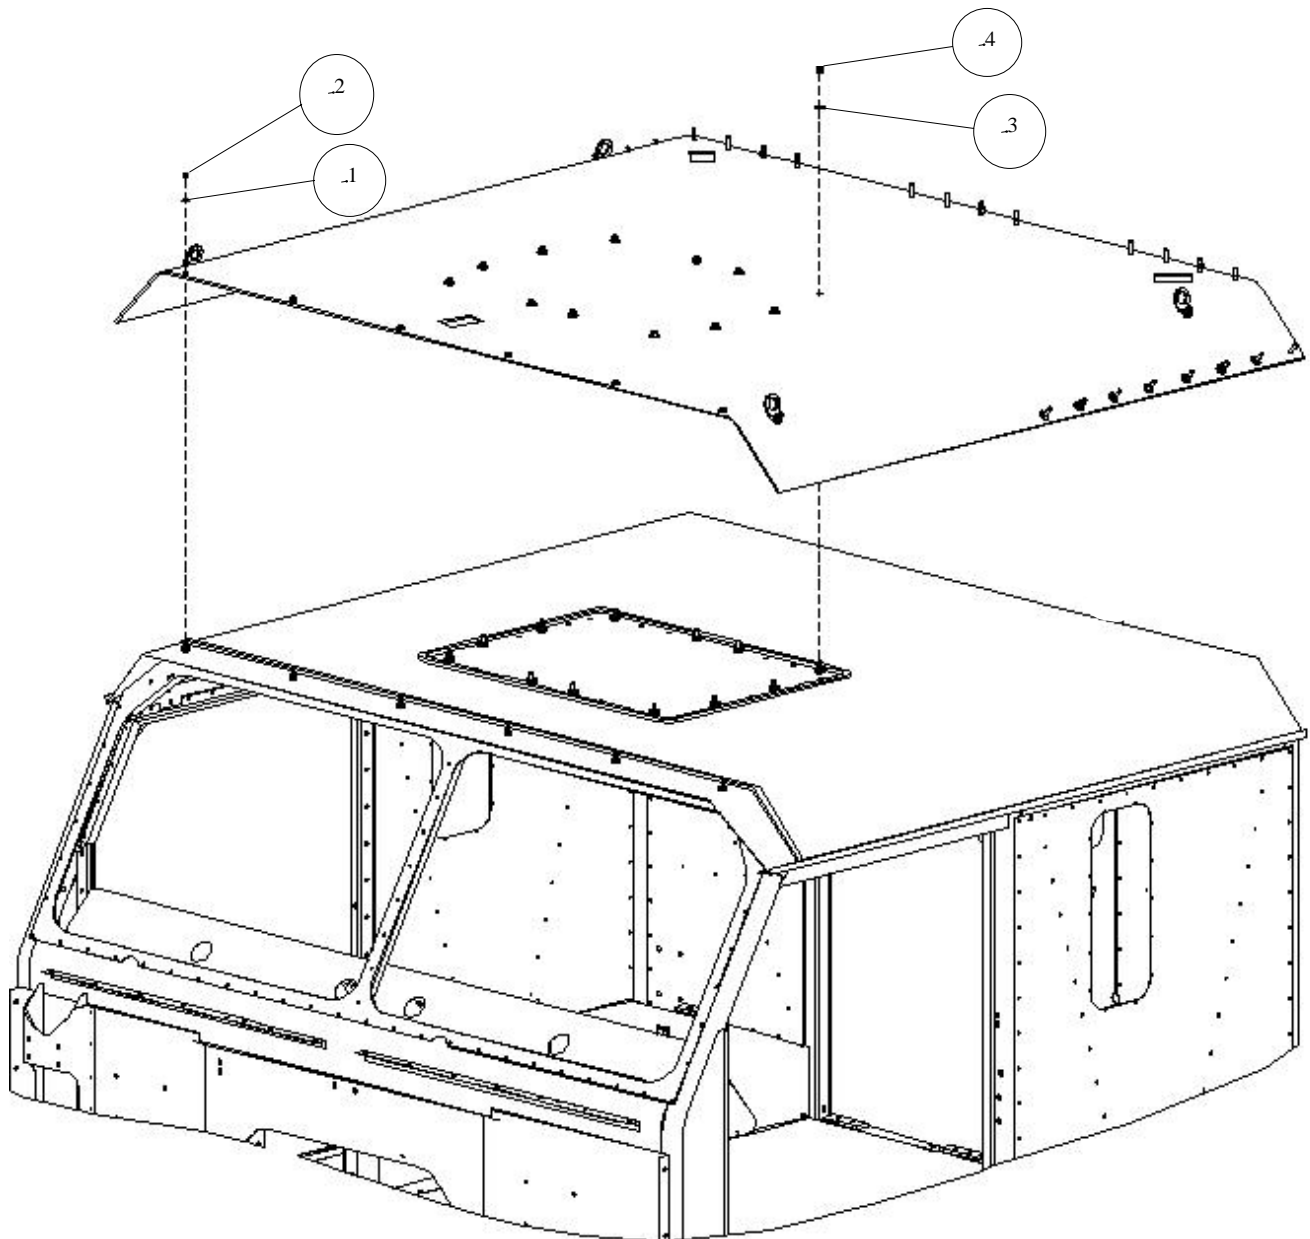

Figure 3-11. Roof Panel Installation.
3. Install roof panel as follows (see Figure 3-11):
- b. Apply urethane sealant in 12 holes around protruding bolts and secure the roof panel assembly to the cab using six flat washers (1), six locknuts (2), twelve flat washers (3), and twelve locknuts (4). Torque six locknuts (2) to 9 lb-ft. Torque twelve locknuts (4) to 35 lb-ft.